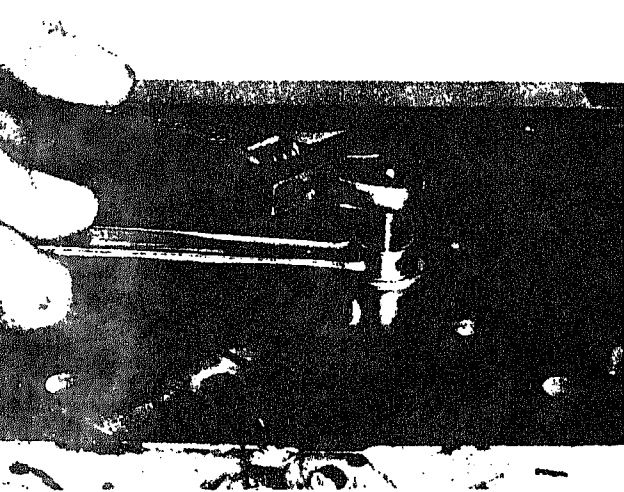

Fig. 2-1-2. Install injector sleeve holding tool
2. Tighten sleeve holding tool to 10/12 ft. lbs. [1.3820/1.6 kg m] to seal lower end of injector sleeve, or install injectors and secure with capscrews torqued to same value. Fig. 2-1-2.